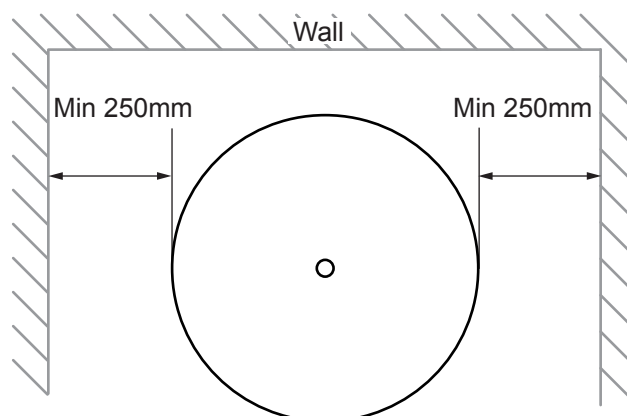

Figure 5: Siting the unit
- ▶ Access to associated controls and immersion heaters must be available for the servicing and maintenance of the system. Where these controls are installed against a wall a minimum distance of 250mm must be left (see Fig. 5).